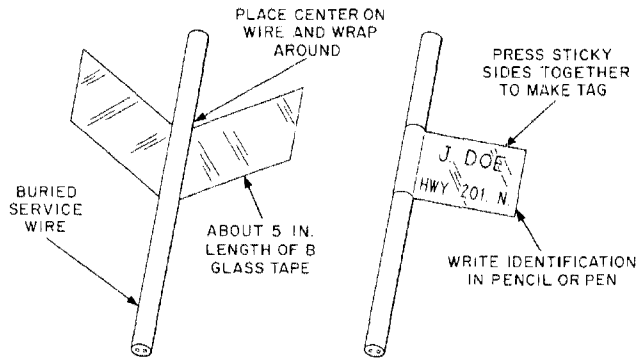

Fig. 1—Identifying Tags
1.09 Buried wires can be identified at terminations by means of tags made from B Glass Tape. Cut about 5 inches of glass tape and wrap it around the wire, pressing the sticky side against itself to make the tag. It can be readily marked with pencil or pen to show the subscriber or to identify the route of the buried wire, as shown in Fig. 1.